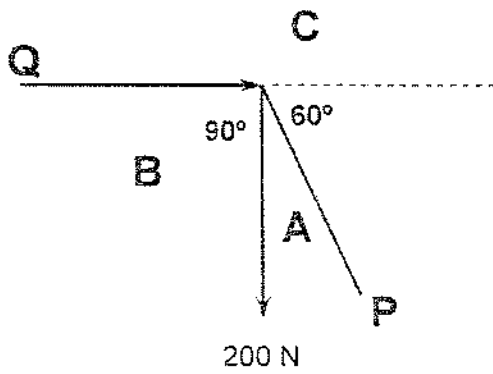

FIGURE 1
- 6.2 The THREE concurrent, coplanar forces in FIGURE 1, ADDENDUM A (attached) is in equilibrium.